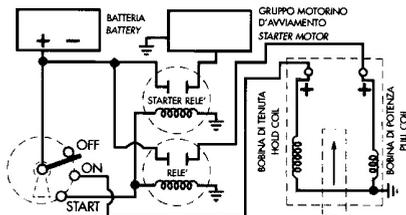

FIG.7
- The pull coil is shunted to the starter motor through a separate relay. The electromagnet trips on the start (Fig.7) and the coil is de-energized when the motor turns off.